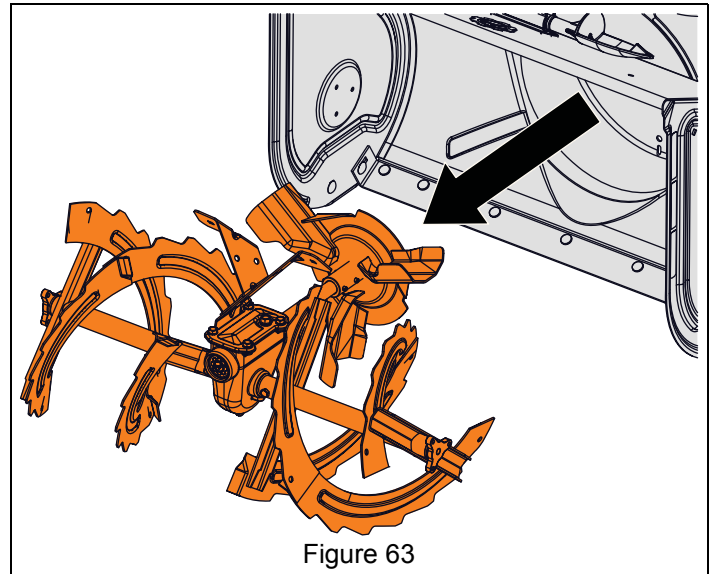

Figure 63
9. Remove auger assembly from housing. See Figure 63.
8. Remove auger assembly from housing. See Figure 63.